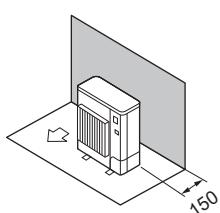

Fig. 2-7
- (1) Solo ostacoli posteriori (Fig. 2-7)